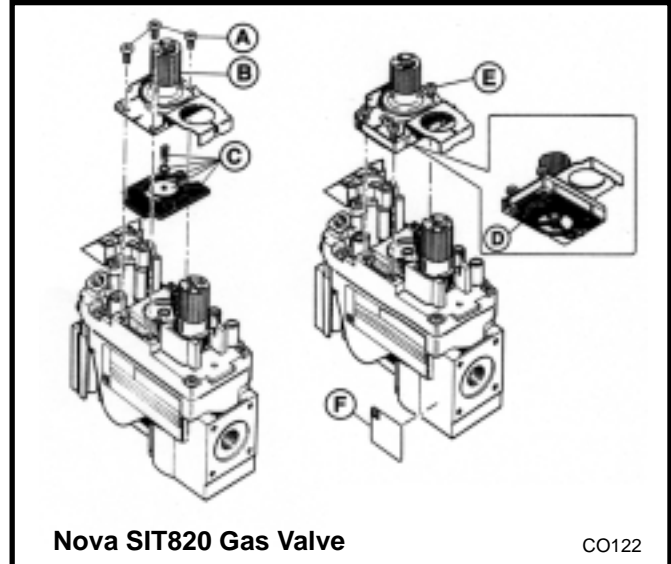

Fig. 55 Nova SIT 820 gas valve conversion.
9. SIT 820 NOVA Gas Control Valve (Fig. 55)
- a) Using a Torx T20 or slotted screwdriver, remove and save (3) pressure regulator mounting screws (A), pressure regulator tower (B), and diaphragm (C).
- b) Ensure the rubber gasket (D) is properly positioned and install the new **HI/ LO** pressure regulator to valve using the new screws (E) supplied with the kit. Tighten screws securely. (Reference torque: 25 in-lb)
- c) Install the enclosed identification label (F) to the valve body where it can be easily seen.